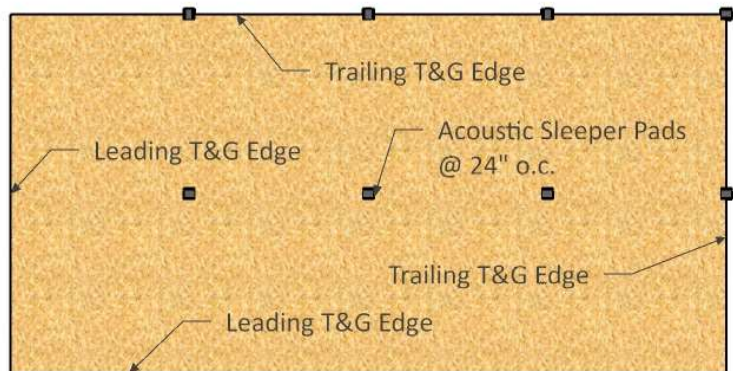

Figure 3: Typical Inverted Plan for Concrete, 4-sided T&G
- Fig. 3: Typical inverted plan of panel for concrete, four-sided T&G and pads 24" o.c. Rout short edges at lumber shop or in field.